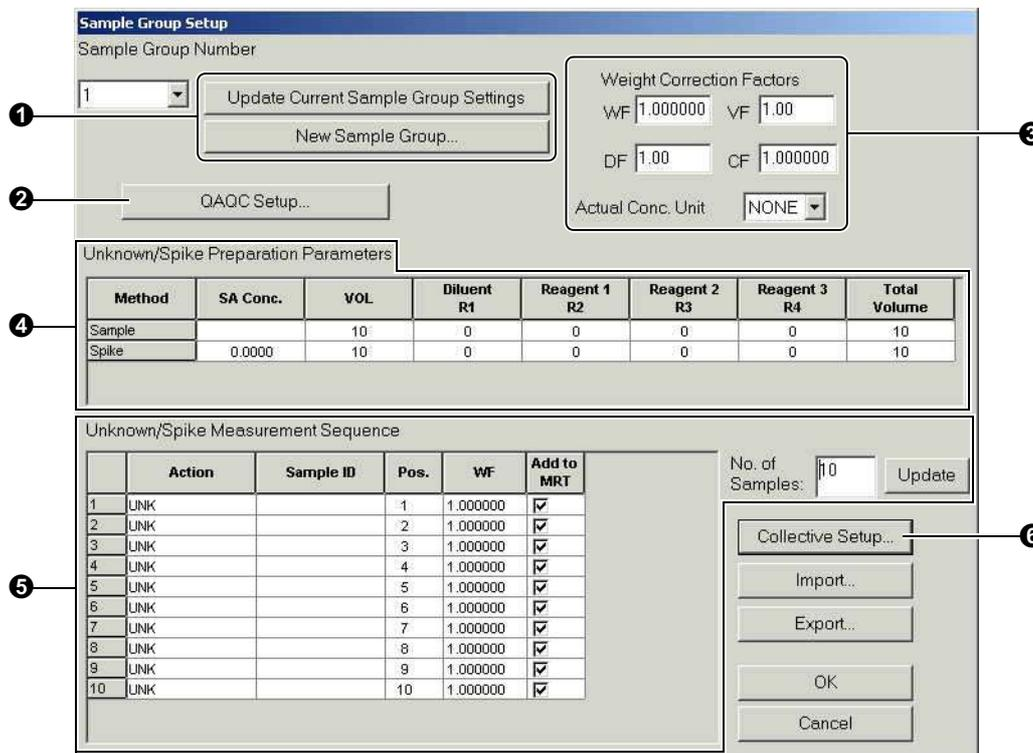

Fig. 3.68 [Sample Group Setup] Page
- ⑥ If you click on the [Collective Setup] button on the [Sample Group Setup] page of Fig. 3.68, the [Sample ID Collective Setup] dialog box will be displayed.